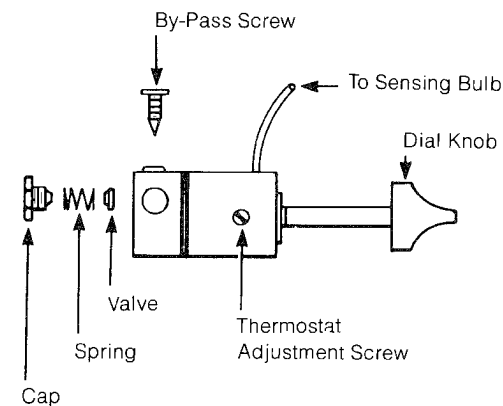

Fig. 2 — Thermostat
Problem: Flame goes out. The thermostat is out of adjustment. To adjust it, turn the dial to "zero". If the flame does not go down to the "low" by-pass setting, follow this procedure (See Fig. 2):
2. If procedure (1) does not correct the problem, adjust the set screw out (in counterclockwise direction) until the flame goes down to the "low" position.
If the flame keeps going out when the dial is turned to (O), remove and clean the by-pass screw which is located as shown in Fig. 2.